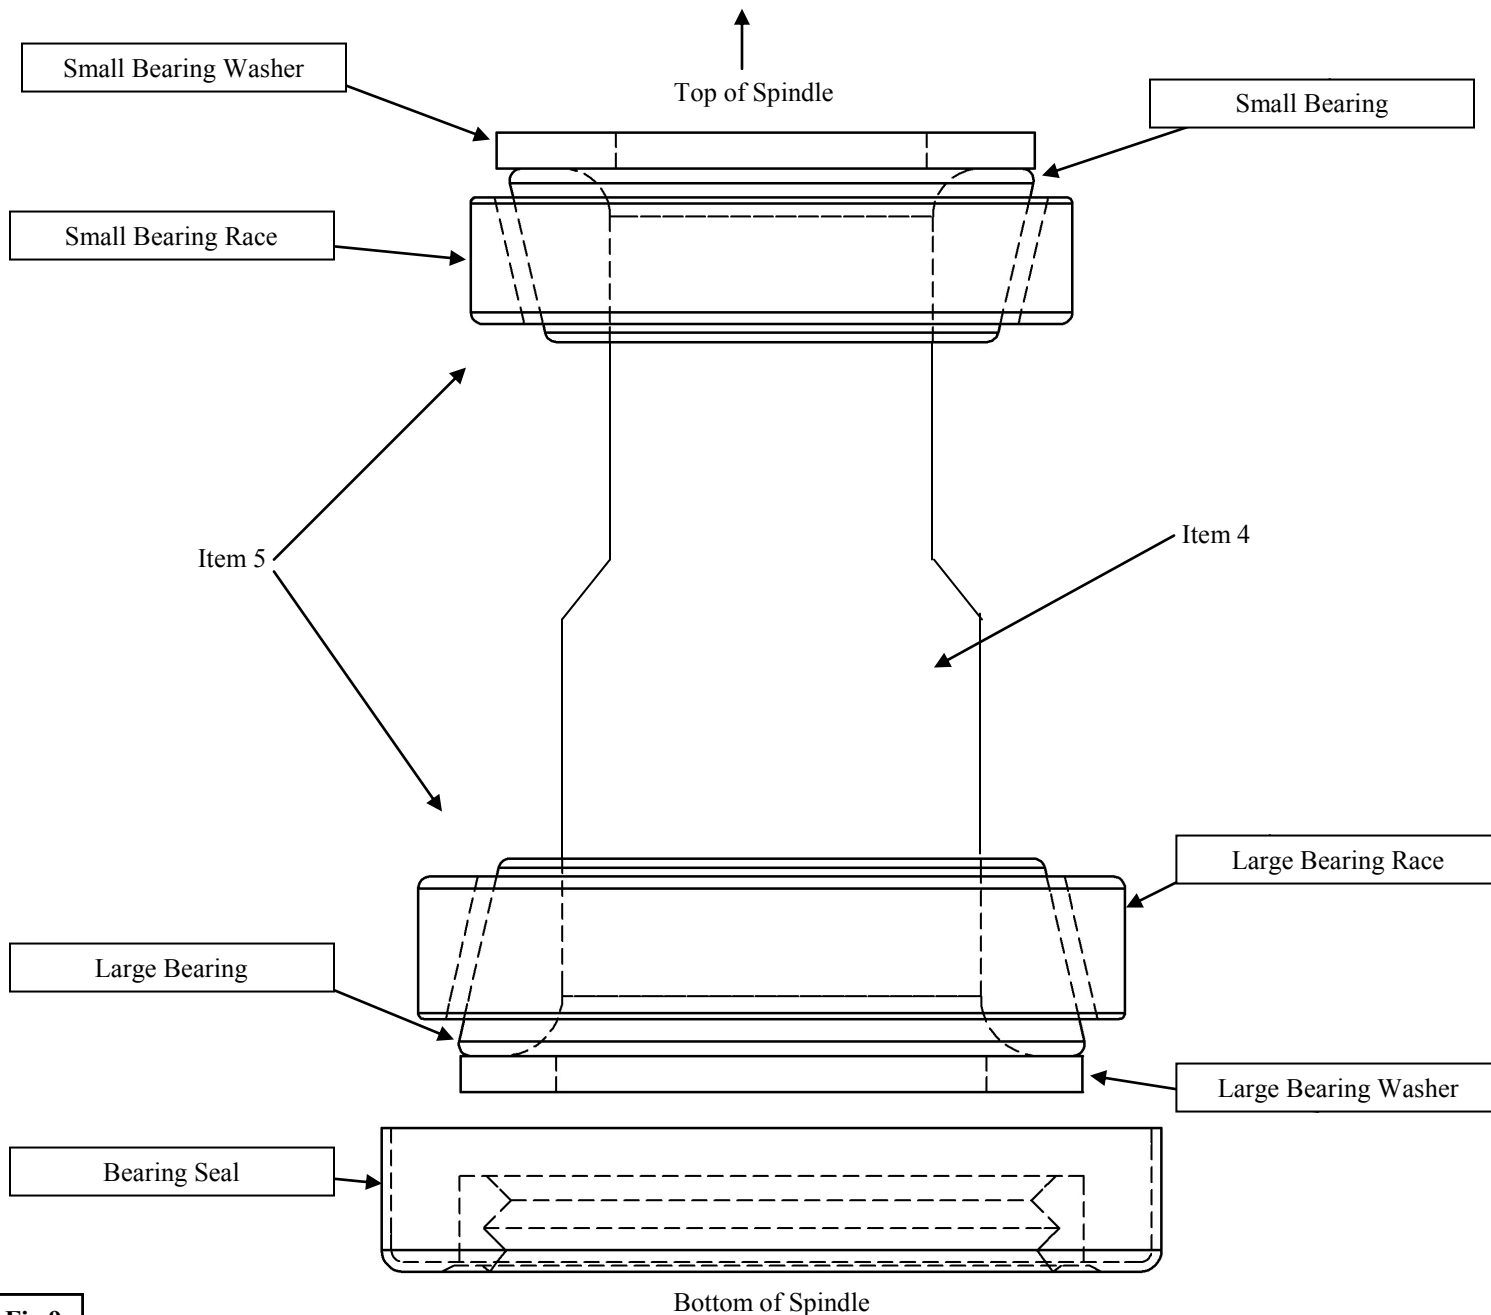

Fig 9
- A. Obtain the Bearing Kit (5).
- D. Insert the bearing race into the tube with the tapered side facing up. **See Figure 9.**
- F. Place the bearing into the race as oriented in **Figure 9.**
- G. Place the large bearing washer on top of the bearing. **See Figure 9.**
- H. Using a soft hammer, tap the seal into place until flush with the bottom of the spindle tube on the tire carrier. **See Figure 9.**